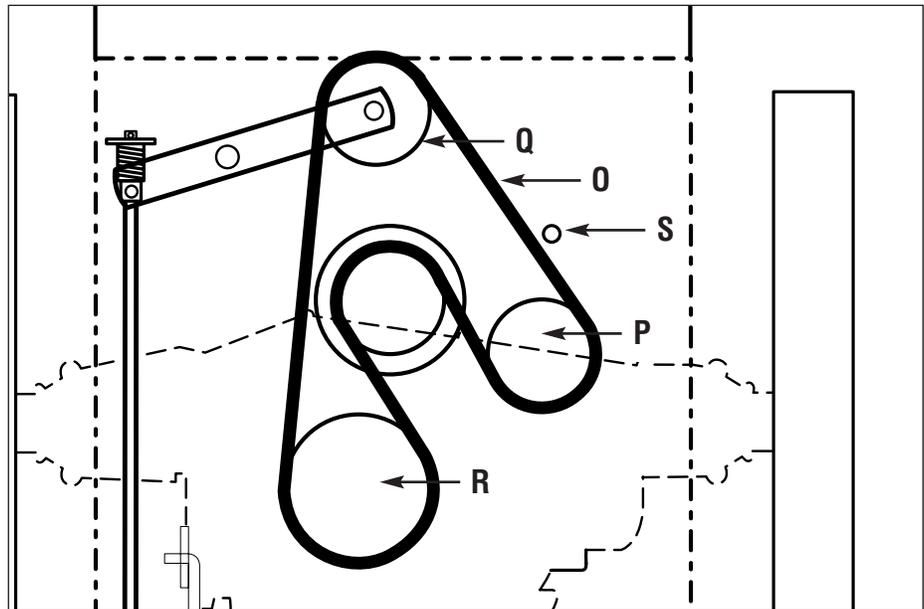

Figure 5-11: Wheel drive belt replacement.
4. Locate wheel drive belt (O, Figure 5-11) and remove it from top sheave of engine sheave, backside idlers (P and Q) and transmission sheave (R).
5. Install new belt as shown in Figure 5-11. Belt must be installed “inside out” – “V” side of belt lies against engine sheave only. Flat side of belt lies against transmission sheave (R) and back-sided idlers (P and Q).
6. Make sure belt is inside belt guide (S, Figure 5-11).